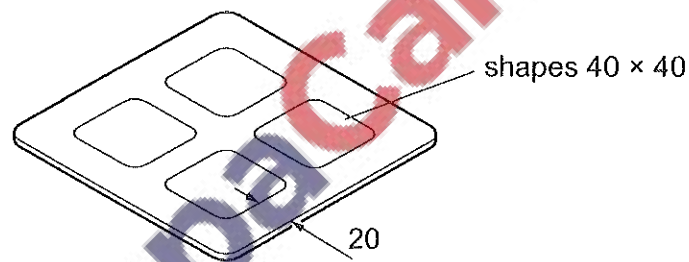

Fig. 11.2
- (a) Fig. 11.2 shows the top part of the pen and pencil holder with the four shapes marked out.